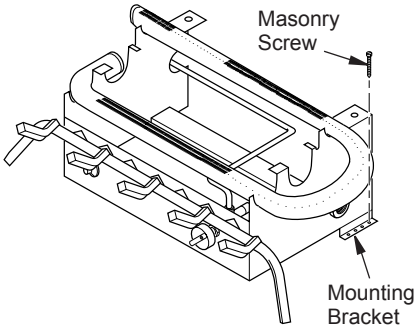

Figure 12 - Attaching Base Assembly to Fireplace Floor - Dual Burner Model
7. Mark screw locations through holes in mounting brackets (see Figure 12). If installing in a brick-bottom fireplace, mark screw locations in mortar joint of bricks.
10. Attach base assembly to fireplace floor using two masonry screws (in hardware package) (see Figure 12).